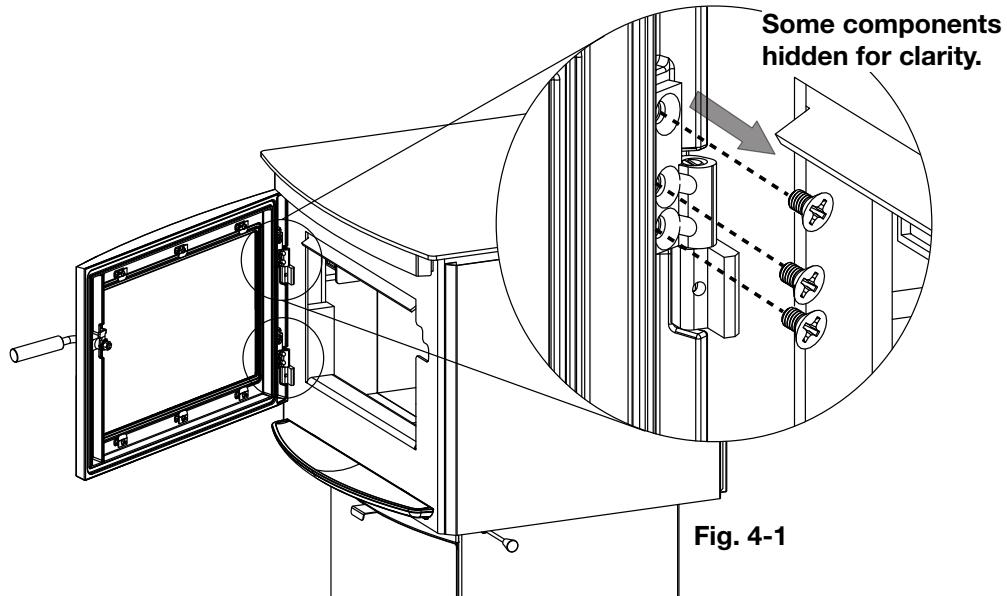

Fig. 4-1
1. With one hand on the door to prevent it from falling, open the door and remove the 6 large screws located on the hinges (3 per hinge) (**Fig. 4-1**).